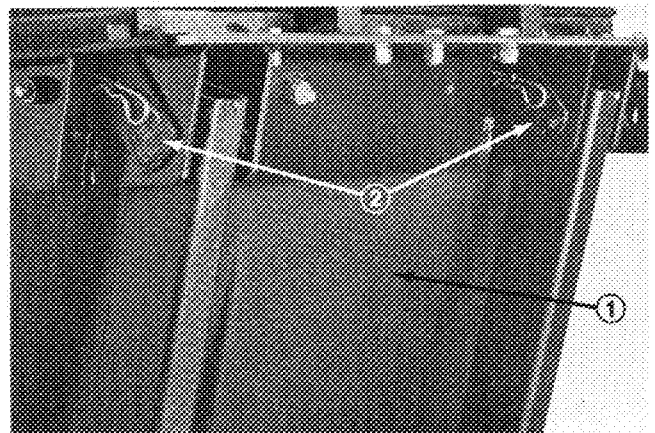

Figure 12
1. Remove tie straps securing tie rods to hopper arms. Install (2) 5/16 - 18 x 1" lg. carriage bolts and flange nuts in hopper arm holes where tie straps previously were.
2. Slide hopper assembly (hopper cover to rear) into side frame aligning mounting holes in hopper with holes in frame (Fig. 12).
- Secure hopper to frame with (2) welded mounting pins and hair pin cotters (Fig.12).